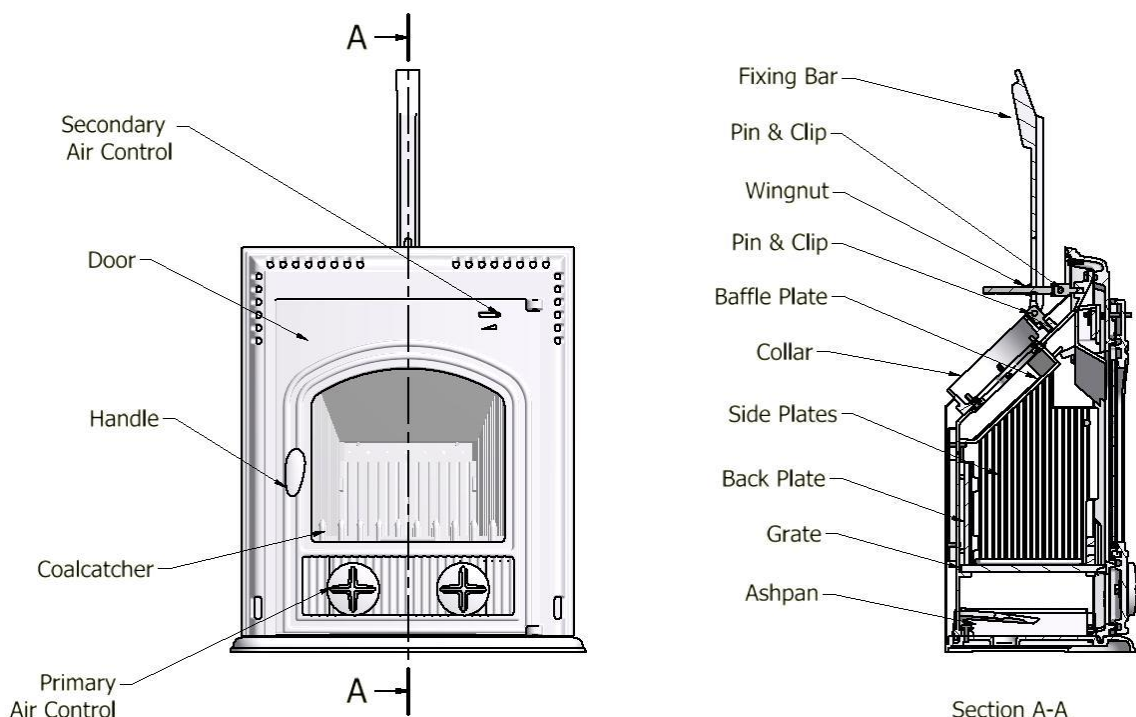

Fig 2 – TR5i Stove Assembly and controls
- Secure the fixing bar and the tightening screw to the stove as shown in fig. 2. Do not put on the wingnut until the stove is in place.